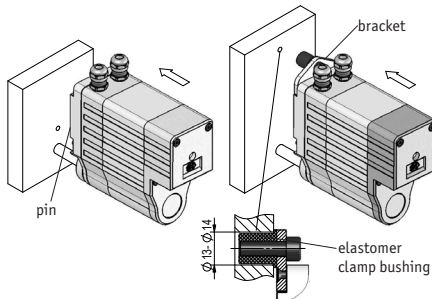

Fig. 2: Mounting options
- Mounting is via torque bracing (pin or bracket, see fig. 2) and clamping of the shaft. Mount the gear with as little tension as possible using the specified torque bracing. In order to achieve backlash-free radial fixation, we recommend to use the elastomer clamp bushing on the mounting bracket.
- Entirely slide the spring collet into the mounting bore (see fig. 2) and then tighten it.